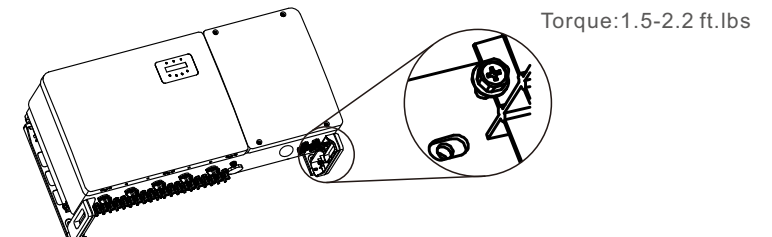

Figure 3.8 Secure the inverter
5) Use supplied 2 M6x12 hex bolts to secure the inverter to the bracket (see figure 3.8).